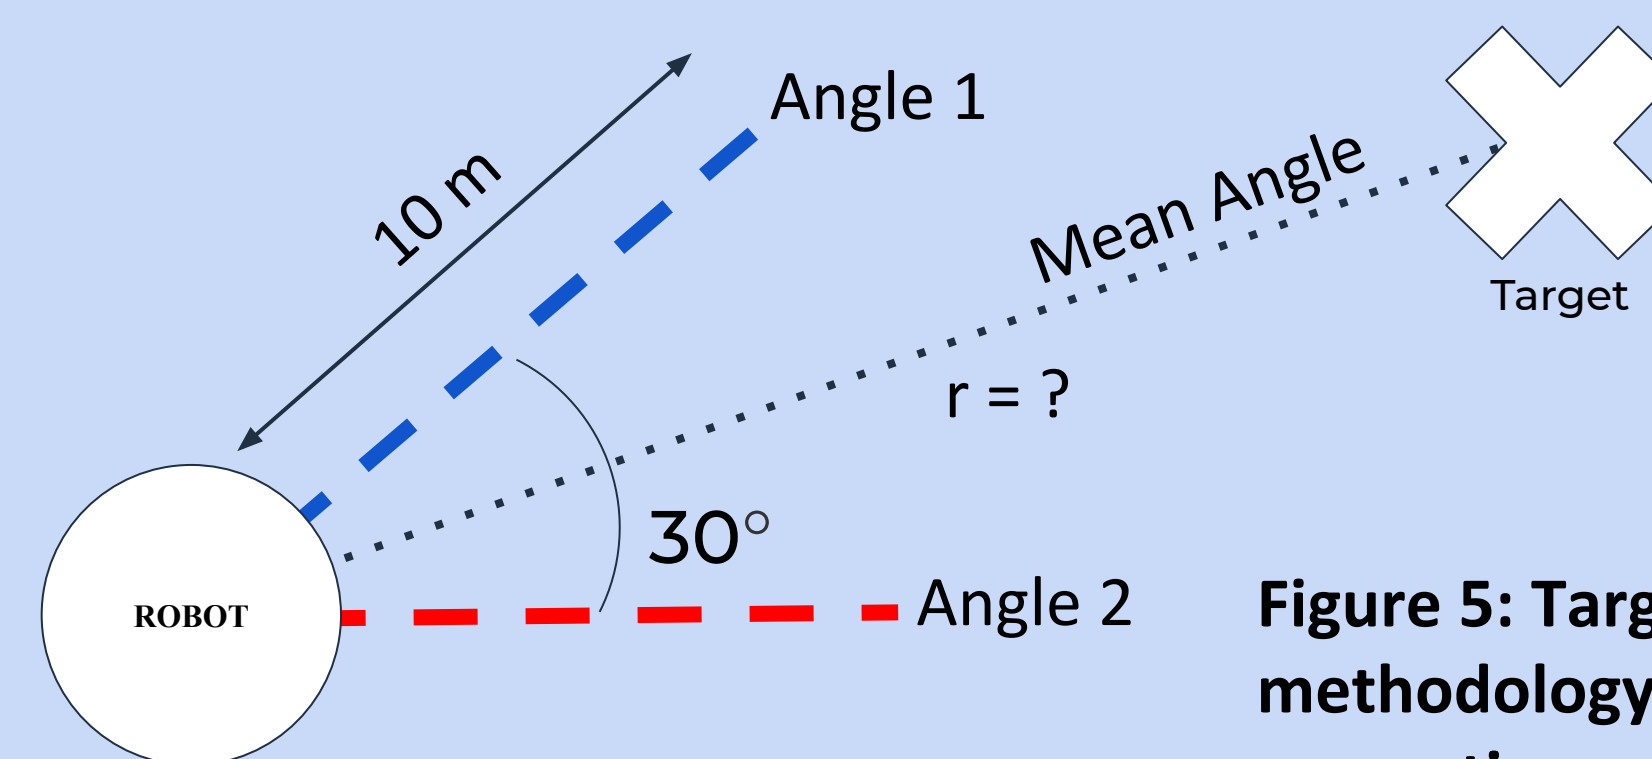

Figure 5: Target localization methodology and antenna properties
- Upon detection, the robot uses the rotating directional antenna to determine the two angles/directions that the target is within (see Fig. 5).